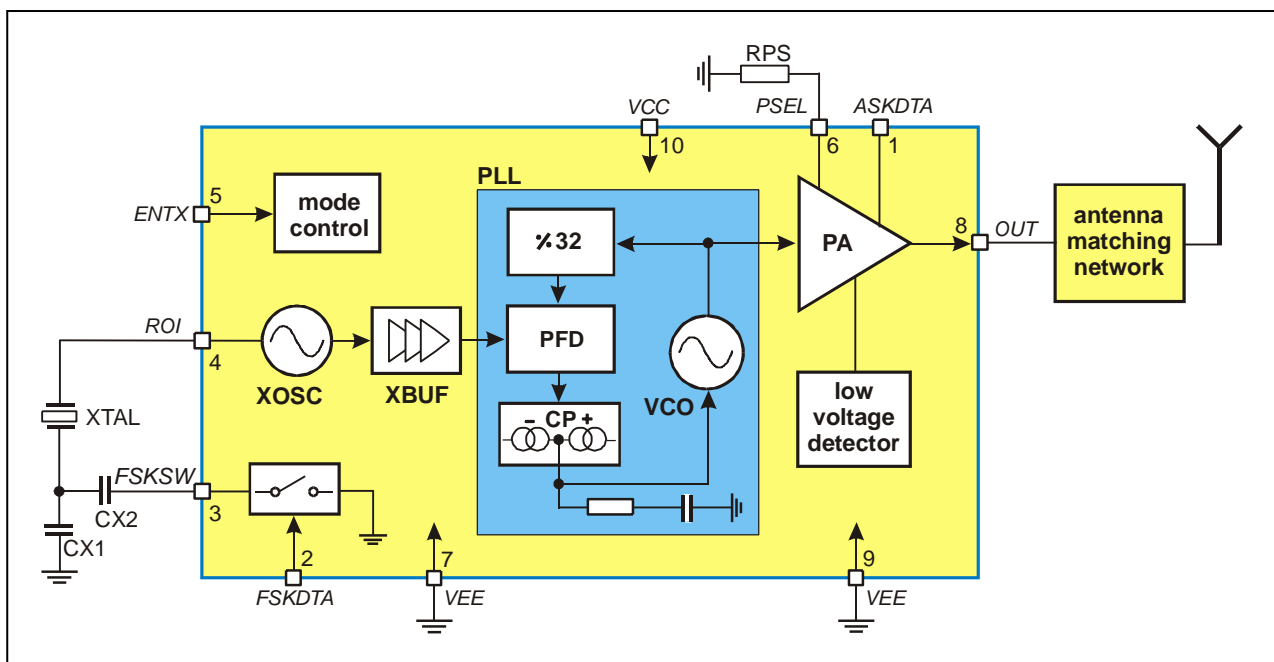

Fig. 1: Block diagram with external components
As depicted in Fig.1, the TH72005 transmitter consists of a fully integrated voltage-controlled oscillator (VCO), a divide-by-32 divider (div32), a phase-frequency detector (PFD) and a charge pump (CP). An internal loop filter determines the dynamic behavior of the PLL and suppresses reference spurious signals. A Colpitts crystal oscillator (XOSC) is used as the reference oscillator of a phase-locked loop (PLL) synthesizer. The VCO's output signal feeds the power amplifier (PA). The RF signal power  $P_{out}$  can be adjusted in four steps from  $P_{out} = -12$  dBm to +11 dBm, either by changing the value of resistor RPS or by varying the voltage  $V_{PS}$  at pin PSEL. The open-collector output (OUT) can be used either to directly drive a loop antenna or to be matched to a 50Ohm load. Bandgap biasing ensures stable operation of the IC at a power supply range of 1.95 V to 5.5 V.